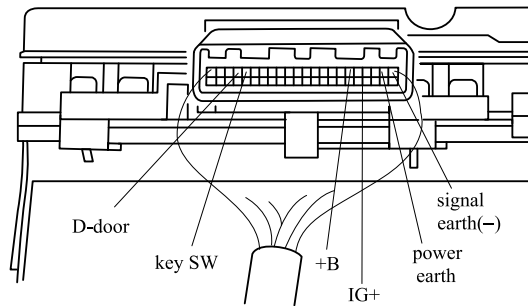

Figure 2 –5 Inspect the key unlock warning buzzer
7. Inspect the Key Unlock Warning Buzzer(As Is Shown in Figure 2 –5.)
8. Inspect the Light Auto Turn off Buzzer(As Is Shown in Figure 2 –6.)